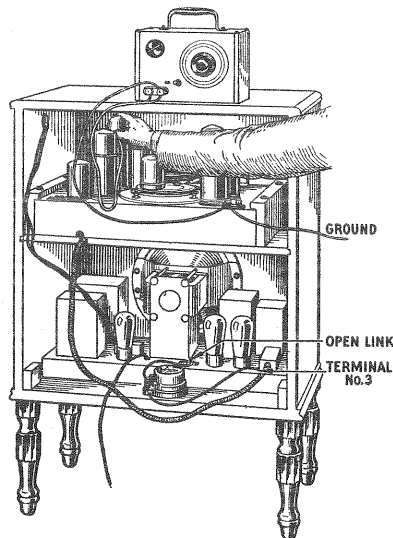

Fig. 9—Using Exploring Coil for Circuit Tests.
(1) Set the oscillator and radio volume controls at maximum, remove the shield cap from the third R. F. tube (see Fig. 9) and place the exploring coil over this tube. If a readable signal is indicated on the A.C. voltmeter, it will be known that the third R. F. and the detector tubes are O. K., that the grid circuits of the two are correct, and the plate circuit of the third R. F. is correct. If no readable signal is obtained, however, it will be known that a defect such as an open or short circuit or a faulty tube exists at some point in the circuits or tubes just mentioned. Such defects can be isolated by replacing the tubes in question and then by making the voltage tests as described in b. above.
(2) If the third R. F. tests O.K., replace the shield cover over this tube and then make a similar test on the second R. F. An increased meter reading will be obtained, as indicated in the tabulation below, if this circuit is O.K. If no meter reading is obtained, however, it will be known that the second R. F. tube, the plate or grid circuit of this tube, or the link circuit is not functioning correctly. Again the defect can be isolated by replacing the tube in question and by testing the voltages in the tube sockets.